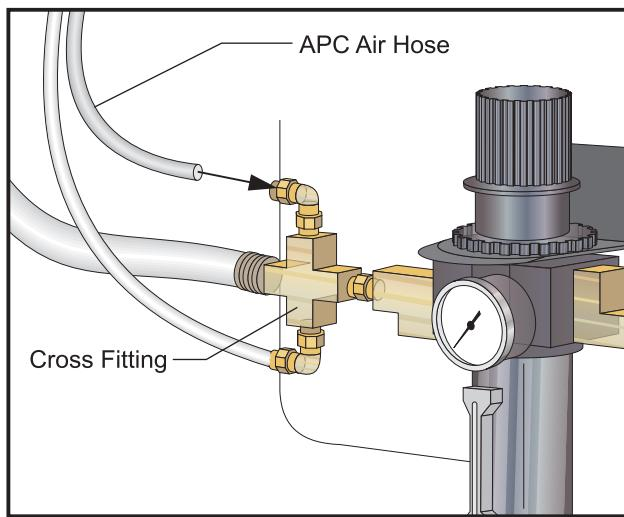

Figure 2.14 APC air hose connection to VMC air/lube cross fitting.
22. Screw the air blast hose into the APC. Remove the piece of tubing from the top fitting of the VMC lube/air panel cross fitting, and replace it with the APC air hose (see Figure 2.14).